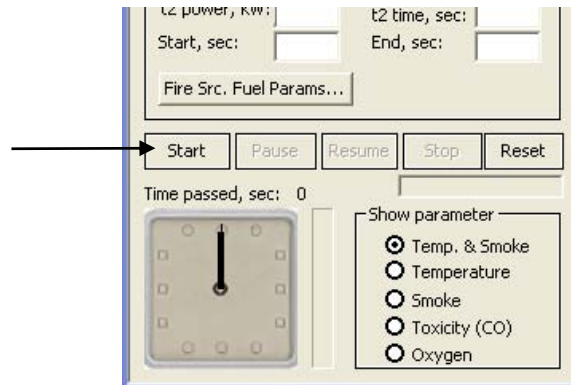

Figure 3-9 Start button starts simulation
Step 6: In the Fire Simulation popup (Figure 3-9), Click the *Start* button